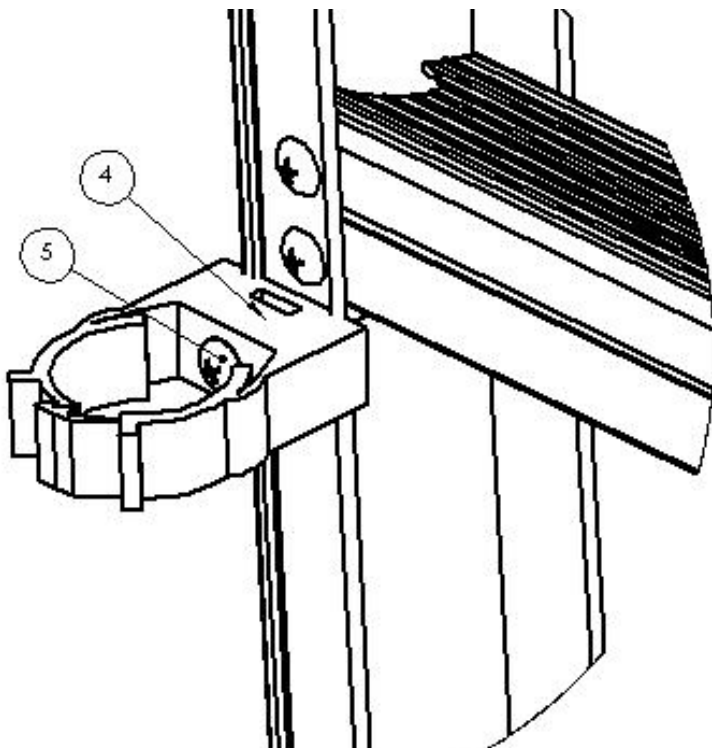
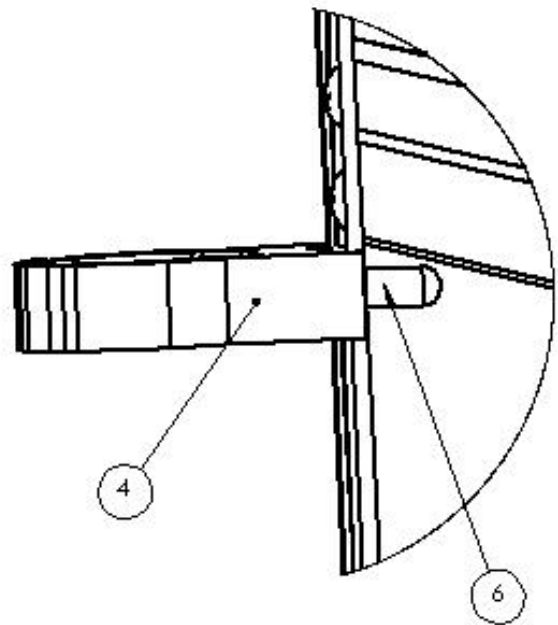

Figure 13a
Figure 13b
- 16) Use a drill with a Phillips bit to fasten the (#4) Plastic Pipe Clamp to the ladder as shown below in Figure 13a. The hose clamp should be attached with the clamp aligned with the bottom of the step, See Figure 13b. Place (#6) Vinyl Cap over visible portion of screw. Repeat this step for each tread on ladder.